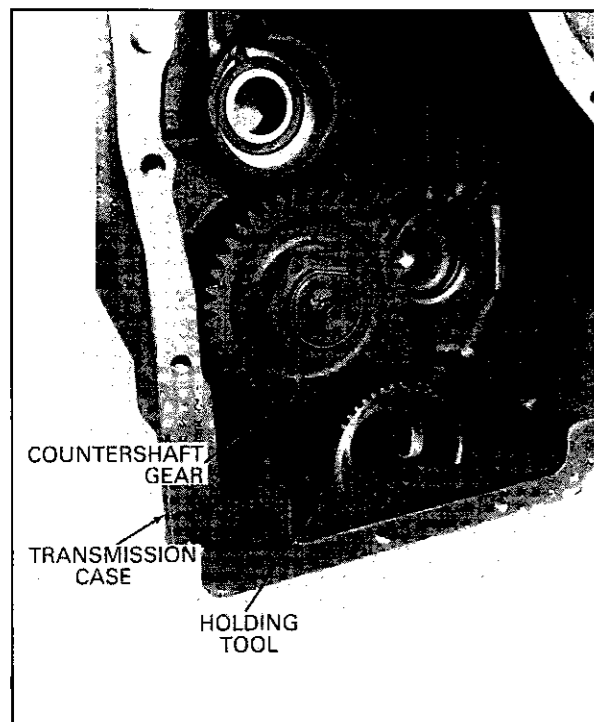

FIG. 12 HOLDING TOOL INSTALLATION
8. Fabricate a holding tool by cutting a 5 inch bevel gear in half (Fig. 12).